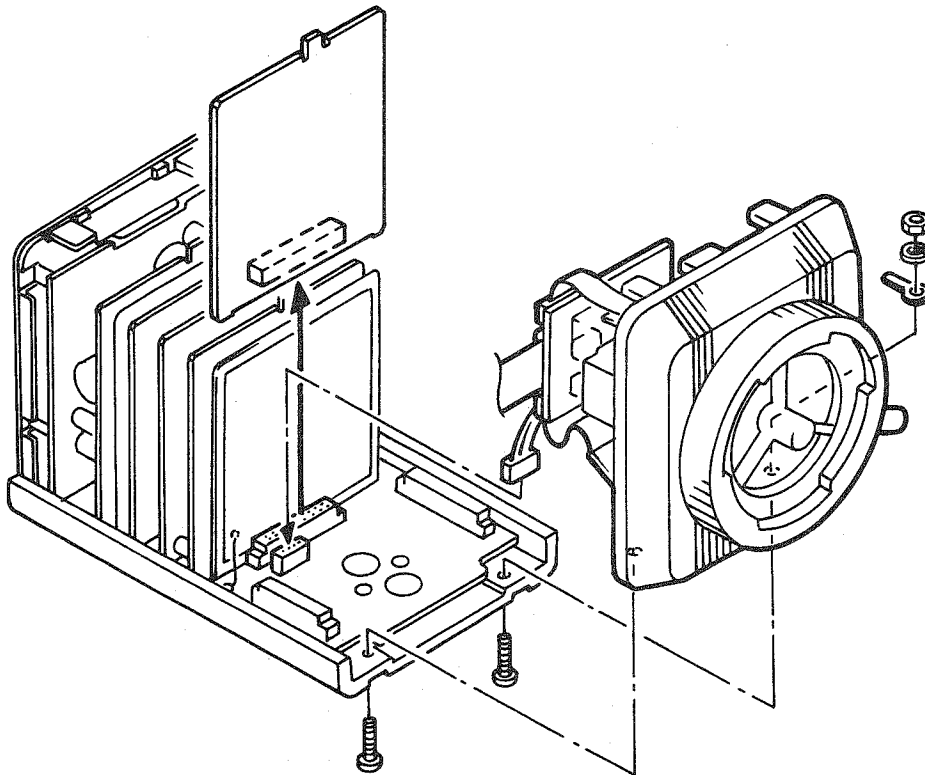

Fig. 5 Removal of front section
- 2) Remove the connector that is CN10 as shown in Fig 5.